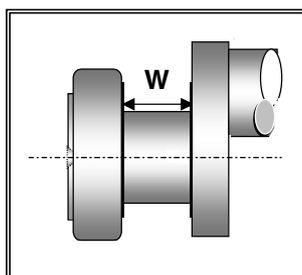

Fig.9-11
- As and when required the thrust faces of the thrust journal should be machined (No. 1 Journal) to the prescribed oversize limit. (W) Fig.9-11